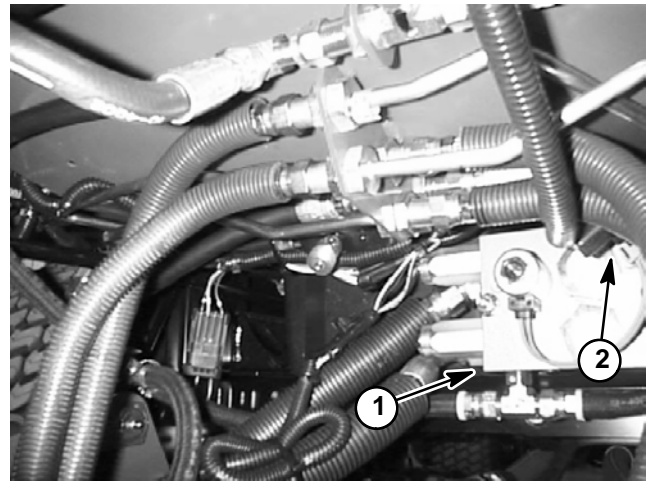

Figure 31
3. Install 5000 PSI (350 bar) pressure gauge with hydraulic hose attached to deck manifold test port for the deck to be tested (Fig. 31, 32 and 33).